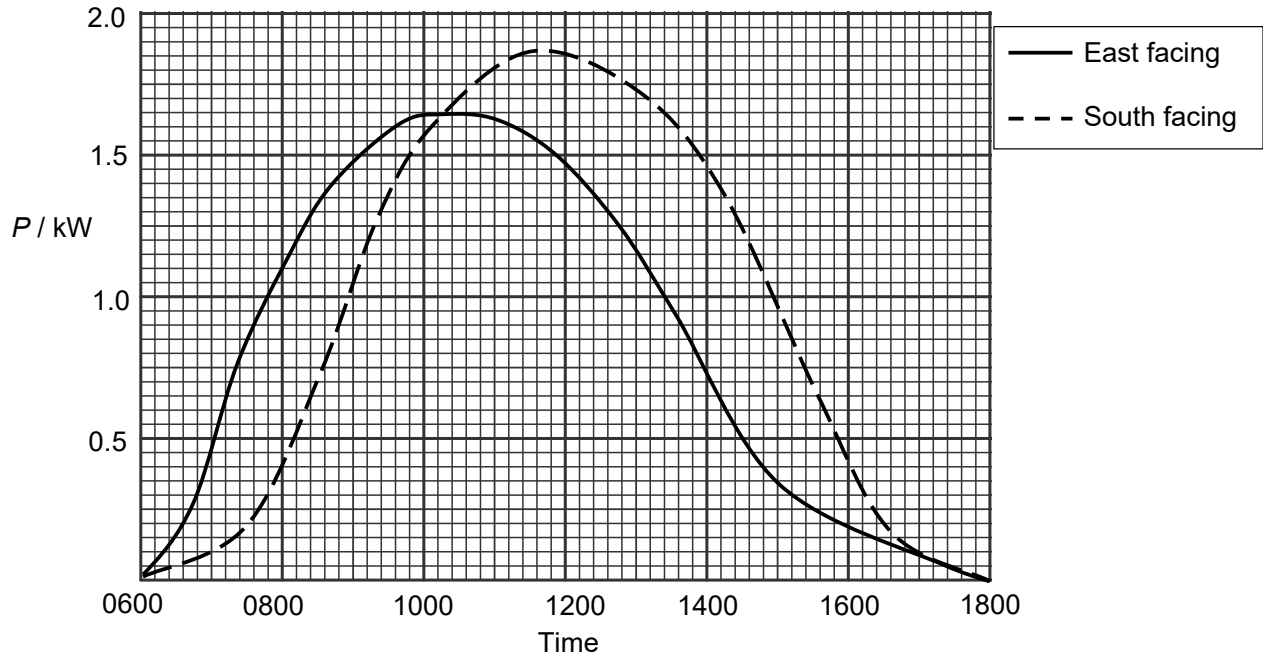

Fig. 22.4
Fig. 22.4 shows the power generated P from two identical PV cell systems over various hours of the day. The two systems are placed at an angle of 35° to the horizontal such that one system is East facing and the other is South facing.
- (i) With reference to Fig. 22.4, estimate the amount of energy in joules generated in one day by the East facing solar system.
- (ii) Sketch on Fig. 22.4, a curve to represent a West facing solar system.